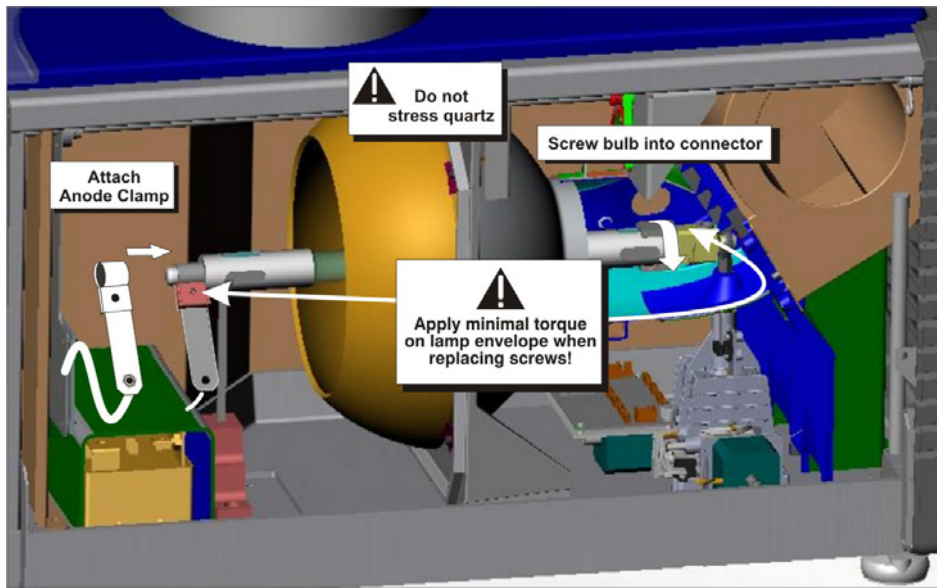

Figure 6-2 Install New Lamp
- b. Insert the threaded cathode (-) end of the lamp into the negative lamp connector nut located in the rear of the lamp compartment. (Figure 6-2) Using both hands, hand-tighten this end into the threaded nut. **Caution! 1)** Handle the lamp by the cathode/anode end shafts only, never the glass. **DO NOT** over-
- c. Rest the anode (+) end of the lamp on the anode yoke and slip the positive lamp connector over the bulb end. **(Figure 6-2)** Using the 5mm Allen key, squeeze together with the anode clamp making sure not to place any torque on the lamp quartz tube. **Important!** For CDXL-30SD lamps, make sure the “flat” part of the anode end of the lamp (if applicable) is facing in the 10 or 2 o’clock position once the lamp finger is installed in the 14mm threads and the clamp screw is tightened. For all other lamp types, keep the “flat” part of the anode end of the lamp facing up. **WARNING! Explosion hazard - Do not apply torque to the anode end of the lamp.**